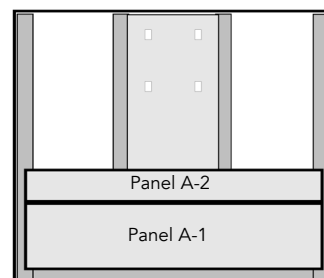

Figure 3.1.2
3.1.2 Place template marked “Elevation A/C Template” on Panel A2 as shown in Figure 3.1.2.